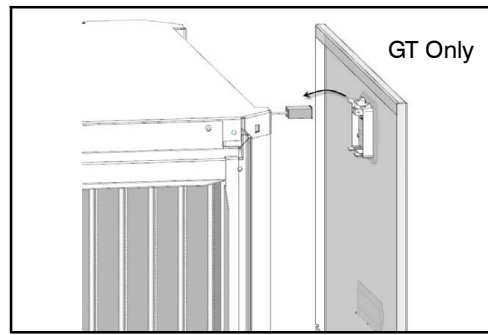

Fig. 5 — Disconnect Unit Display
3. Prior to removing the blower panel, disconnect unit display from the back of the panel (GT unit only). See Fig. 5